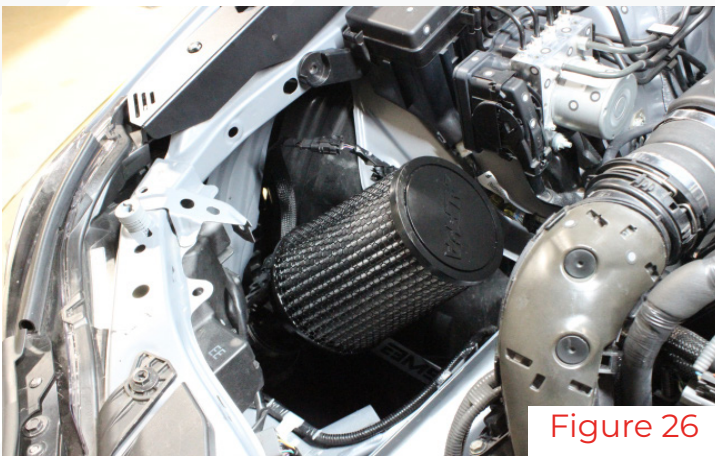

Figure 26
18. Tighten all clamps and bolts (Figure 26). This completes the install. Please enjoy your new AMS Performance WRX Intake System.